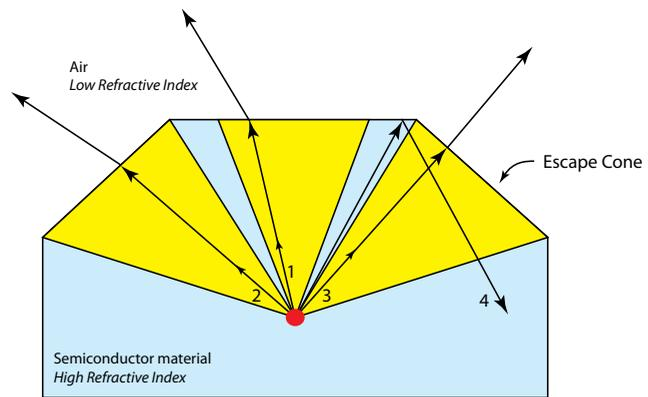
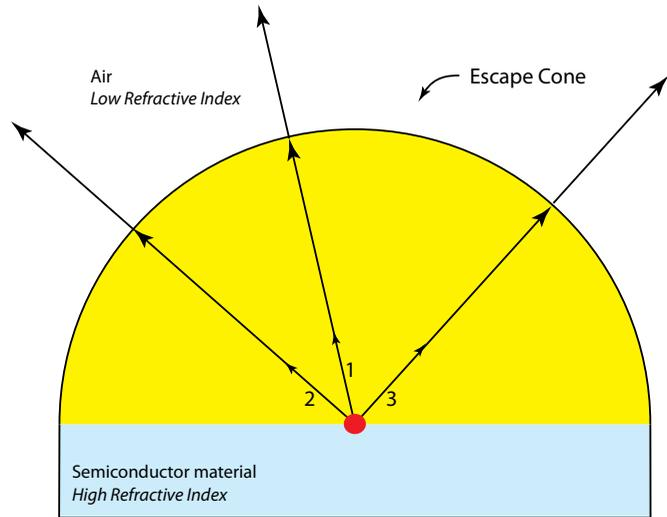

Figure 3 - TIR in a trapezoidal LED die
Figure 4 - TIR in a hemispherical LED die
**Figure 3** shows that a big improvement can be made just by cutting the top corners off the rectangular die. Now each of the facets at the top is angled so that the light rays hitting it are always at an angle much closer to the normal and so many more escape TIR. We now have a number of escape zones which add up to a much more efficient emitter, and, as you can see, rays 1, 2 and 3 all escape and become usable light. A simple trapezoidal shape like this is not perfect, though; ray 4 still hits an area where TIR bounces it back in again. It's also very much more complex to fabricate this shape of die. But let's not stop there, we can continue to make improvements by cutting the corners off again and again until we eventually end up with the hemispherical die shown in **Figure 4**.